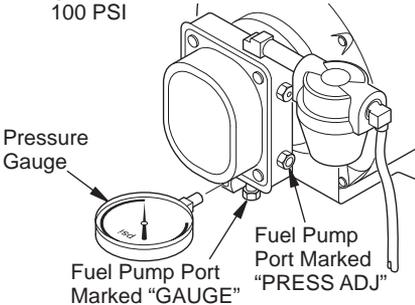

Figure 10 - Adjusting Pump Pressure
2. Install accessory pressure gauge (part number 110380-01) to fuel pump port marked "GAUGE" (see Figure 10).